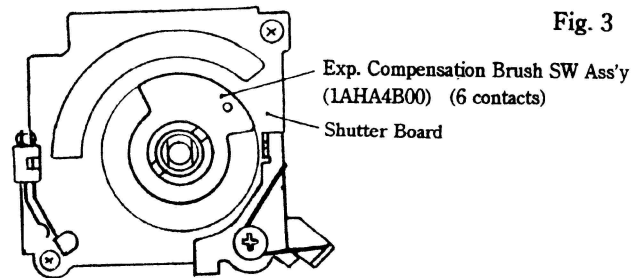

Fig. 3
- 1) Make certain that the Exp. Compensation Brush SW Ass'y (1AHA4B00) (6 contacts) is positioned as shown in Fig. 3.